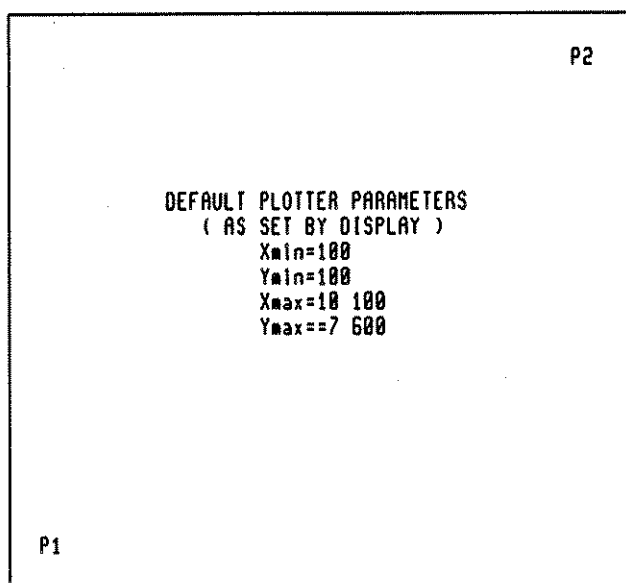

Fig. 51. Plotter Parameters as Set by HP 70205A and HP 70206A Displays
In figure 51, the default plotting area for the HP 7475A 6-Pen Graphics Plotter is outlined. **P1** is the lower left corner, **P2** is the upper right corner.
1. To set plotter parameters to their standard default values, press [DSP], *define hardcopy*, and *DEFAULT VALUES* (see *DEFAULT VALUES* description in this chapter). Xmin, Xmax, Ymin, and Ymax will be set to the values shown in the figure above (Figure 51). These values will allow 0.5 inch margins on 8.5 by 11 inch paper.